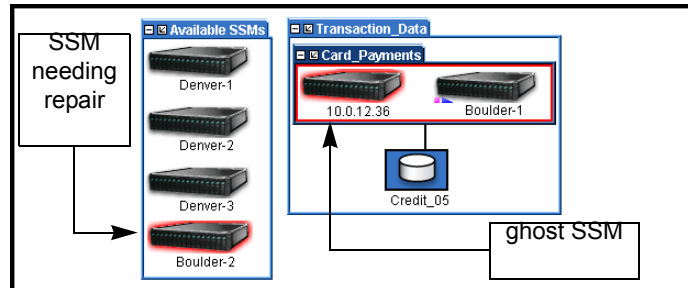

Figure 161. Viewing the Ghost SSM
- Click OK. The SSM leaves the management group and moves to the Available group. A placeholder, or “ghost” SSM remains in the cluster, shown in Figure 161. It is labeled with an IP address instead of a host name.
- Add the repaired SSM to the management group. The SSM returns to the management group and the ghost SSM is still in the cluster, shown in Figure 161.